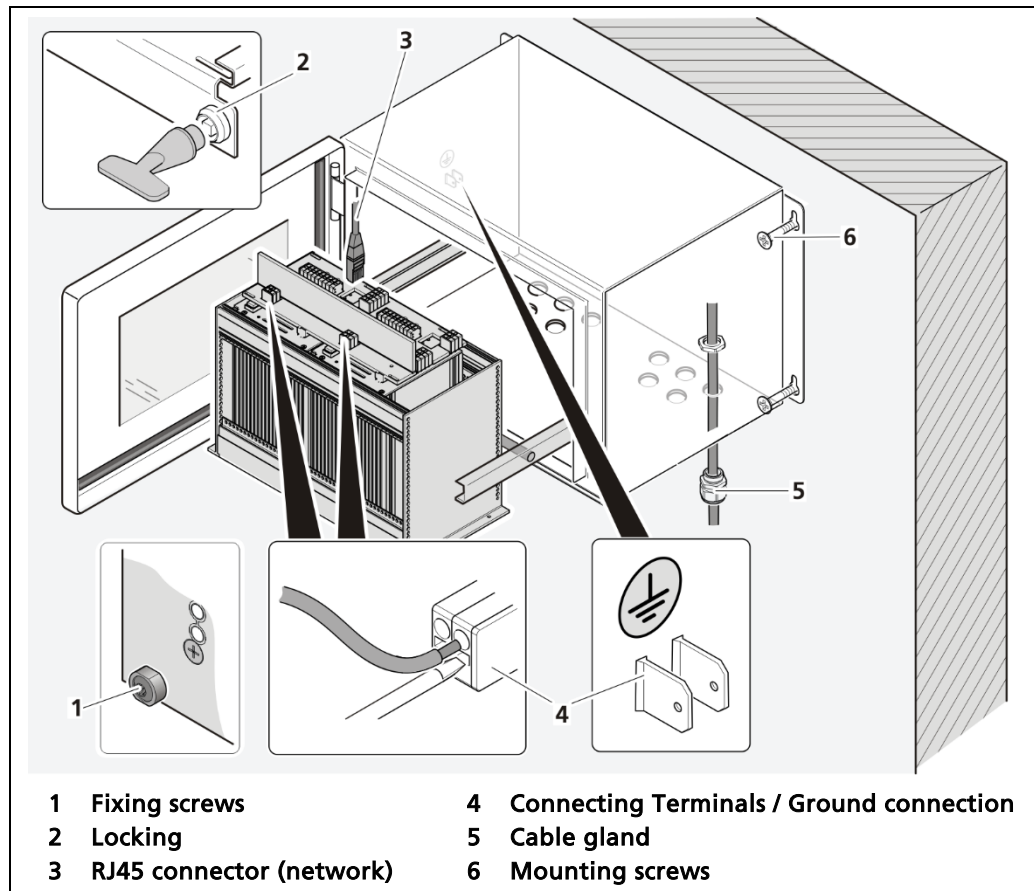

Fig. 152 Decommissioning wall housing
1. Make sure that the locking bolts (Fig. 152, item 1) of all modules are tightened in order to prevent slipping.
2. Loosen the lock (Fig. 152, item 2) using the supplied square key and pull the subrack out.
5. Remove the network plug (Fig. 152, item 3).
7. Loosen the cable gland (Fig. 152, item 5) on the bottom side of the wall housing and pull all cables from the wall housing.
9. Loosen the mounting screws (Fig. 152, item 6) and remove the wall housing.